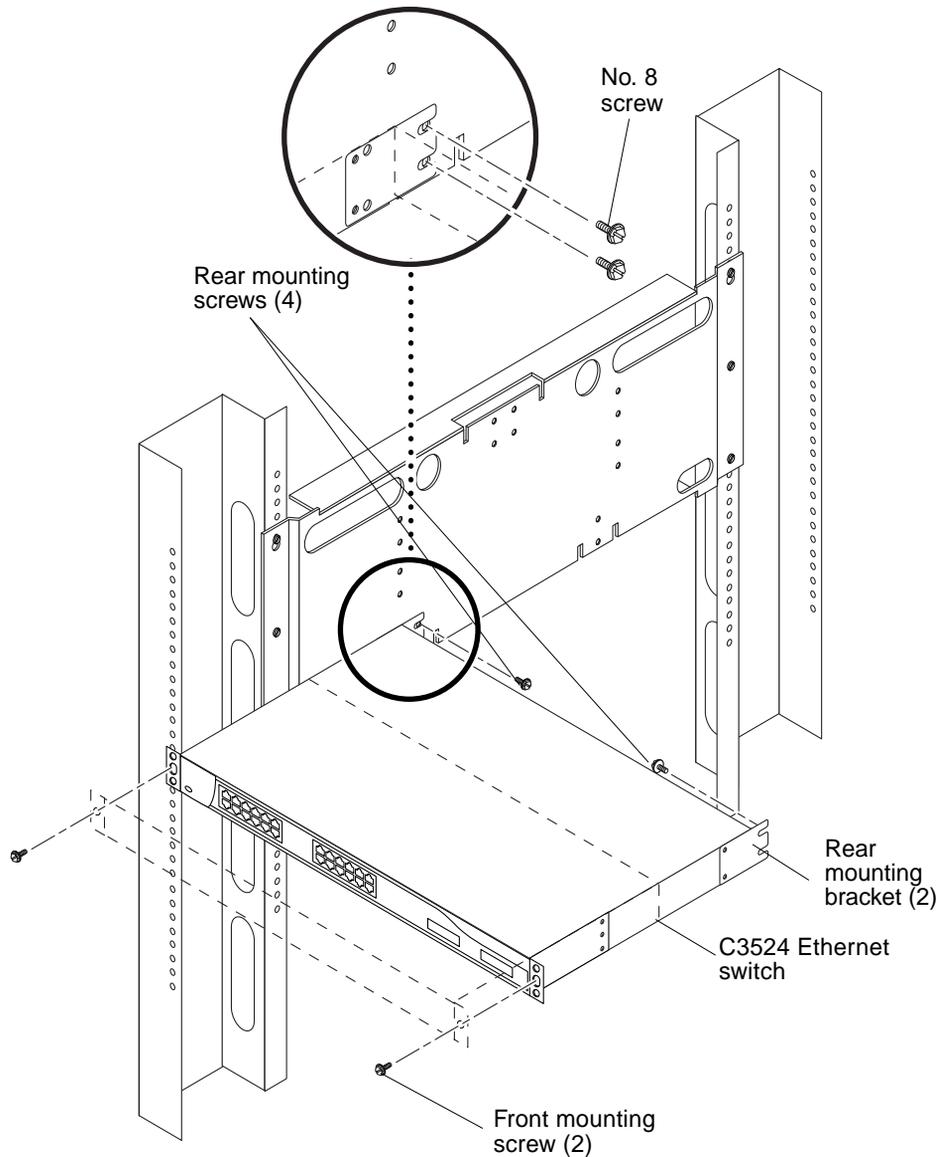

FIGURE 9-5 Removing and Replacing the C3524 Ethernet Switch
5. Using a No. 2 Phillips screwdriver, proceed as follows (FIGURE 9-5):
- 5. Using a No. 2 Phillips screwdriver, proceed as follows (FIGURE 9-5):**